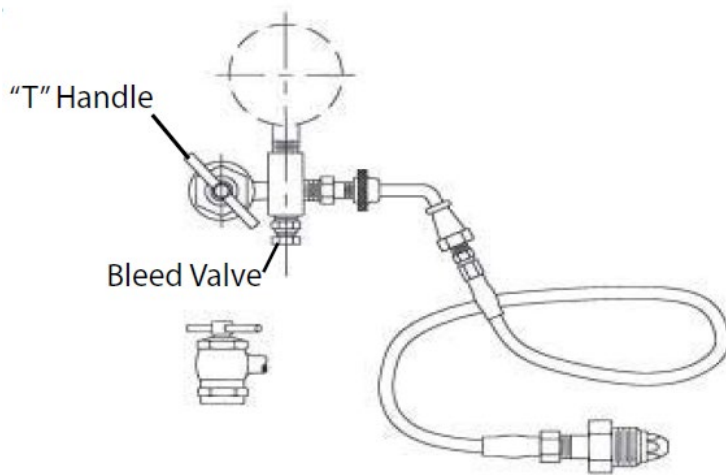

Figure 7 - Nitrogen Charging Assembly
7. Let the pre-charge set for 10 to 15 minutes. This will allow the gas temperature to stabilize. If the desired pre-charge is exceeded, close nitrogen bottle valve, then slowly open bleed valve (Figure 7). Do not reduce pre-charge by depressing valve core with a foreign object. High pressure may rupture rubber valve seat.